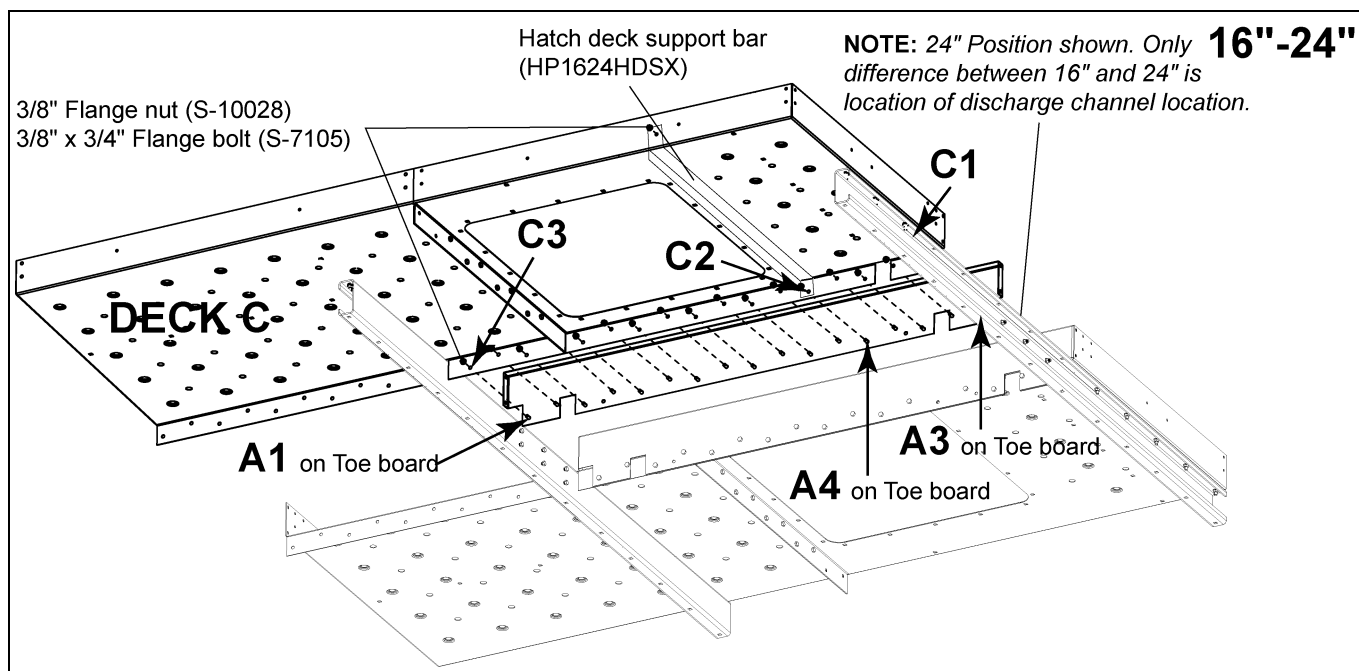

Figure 7E 24" Deck C Toe Board
1. Locate pre-assembled Deck C, consisting of two (2) planks and connecting tabs.
4. Using a punch as needed for alignment, connect Deck C to side toe board using 3/8" x 1" carriage bolts (S-3585) with flange nuts (S-10028) and torque to standard specifications. (See Figure 7E on Page 48.)